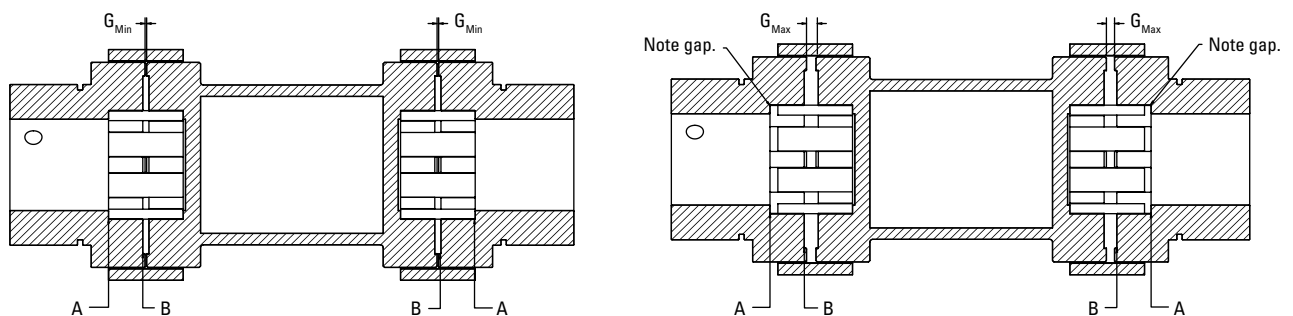

Fig. 10. Proper shaft-to-hub engagement.
- Install the hubs. They should be mounted so the end of the shaft is flush with surface "A" as shown in fig. 10.
- Install the spacer body and inserts. Slide all three components (spacer body and two inserts) tight to one side and check the gap from the insert face to hub flange face shown as surface "A" in fig. 10. This should not exceed $[(2 \times G_{Max}) - (2 \times G_{Min})]$ using the appropriate minimum hub gap (G_{Min}) and the maximum hub gap (G_{Max}) from table 20.
If this gap exceeds your calculation, adjust one or both hubs to set within specs, paying attention not to have the shaft end extend past surface "B" as shown in fig. 10.